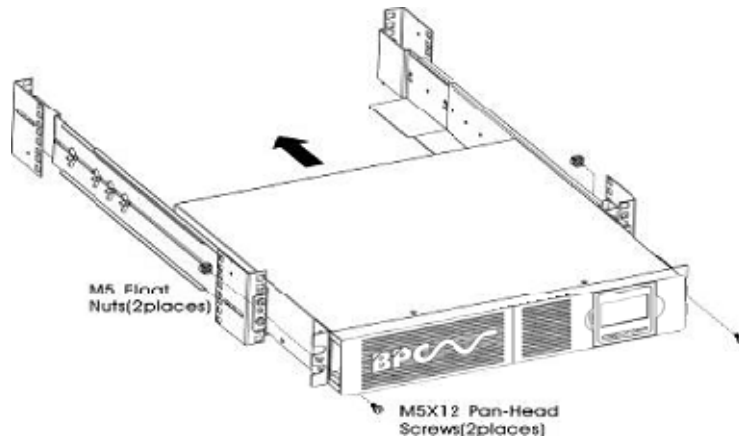

Figure 4 - Securing the Front of the Cabinet
- l) Secure the front of the UPS to the rack using one M5×12 pan-head screws and one M5 cage nuts on each side(see Figure 4).Install the bottom screw on each side through the bottom hole of mounting bracket and the bottom hole of the rail.